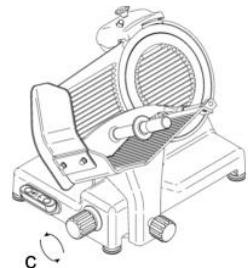

Fig. 20
- Check the opening of the movable slice thickness wall using the slice thickness adjustment by rotating it clockwise or anti-clockwise (c, fig. 20).